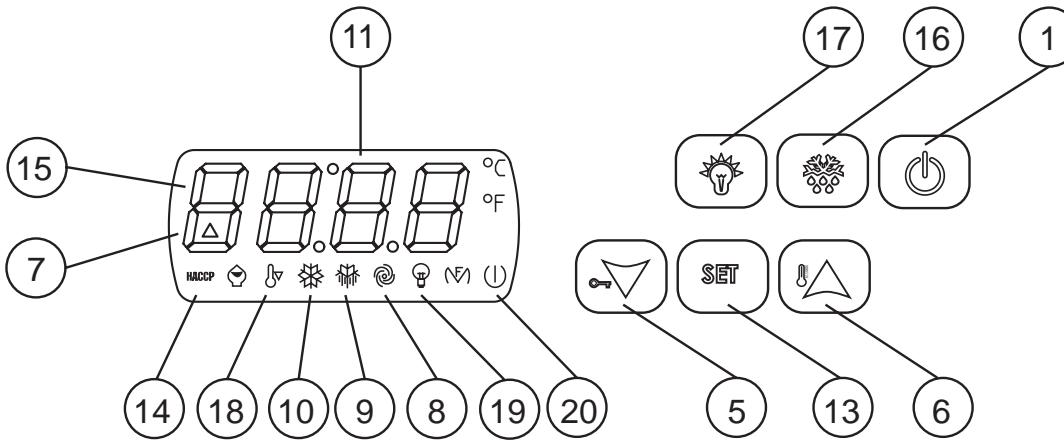

Fig.3
9.1 Description of the controls and buttons (Fig. 3)
Start-up sequence (fig.3).
9.2.2 Stopping methods (fig.3)
9.2.3 Adjustment of the internal clock to the current time (fig. 3)
Setting the temperature (Fig. 3)
☞ **9.2.5 Automatic and manual defrost (Fig. 3)**
☞ **9.2.6 Keypad lock (fig.3)**